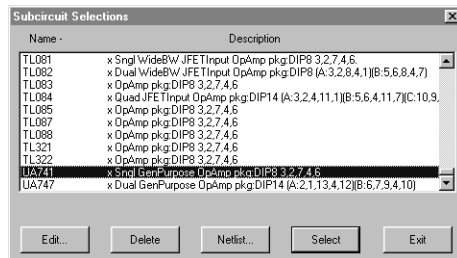

Figure 3.15. Use the Subcircuit Selections dialog box to select a specific model, such as the UA741.
- 9 Select **UA741** from the list of available subcircuits (located near the bottom of the list; see Figure 3.15) and click the **Select** button.